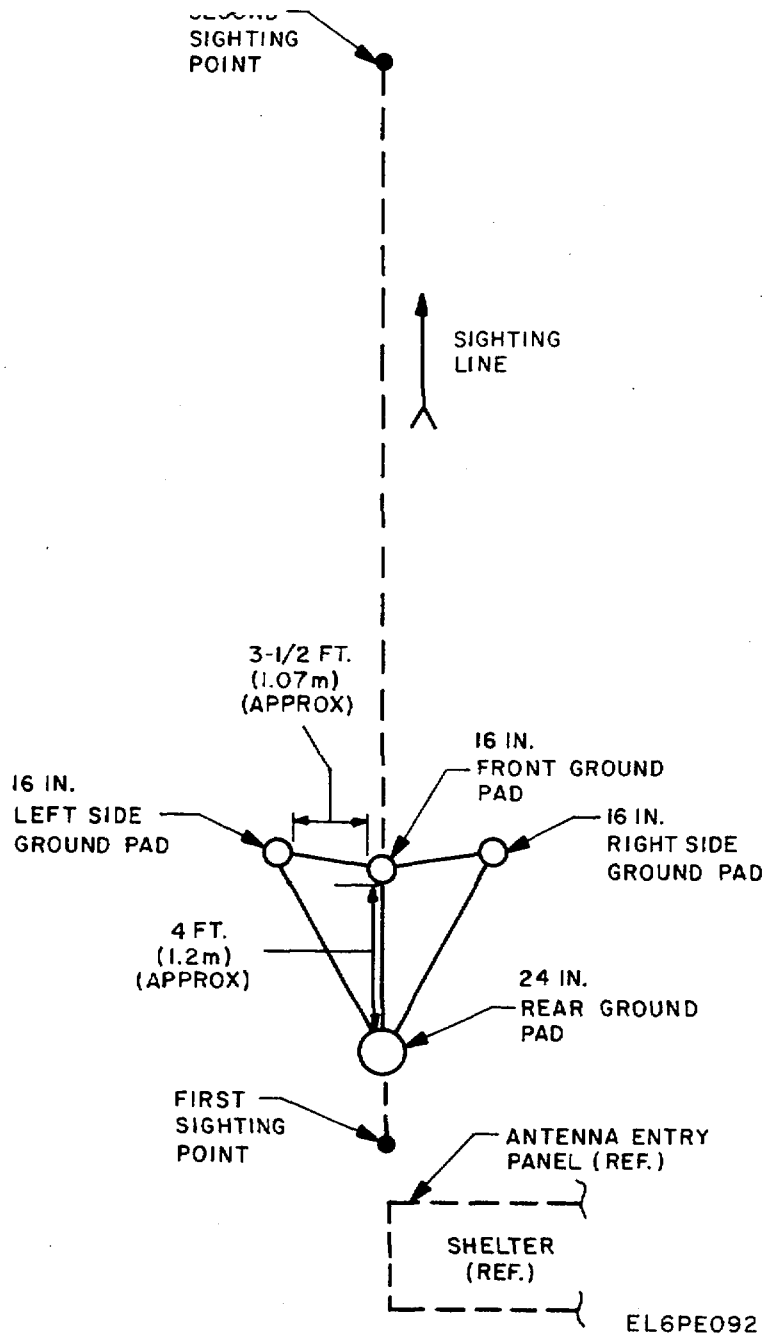

Figure 2-6. Placement of Antenna Ground Pads.
a. *Placement of Ground Pads.* (fig. 2-6).